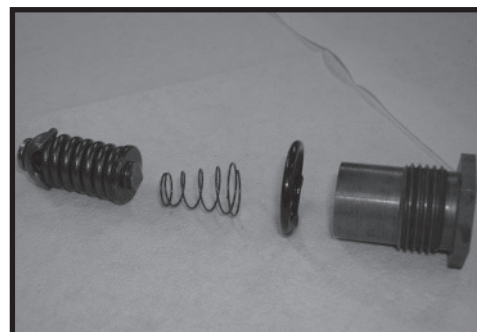

Figure 62
21. If relief valve components items #21, #22, #24 were removed from the end cover (2) assemble a **new** o-ring (22) on the two plugs (21). Assemble a two piece relief valve (24) in each of the plugs, with the large end of the conical spring into the plug first and the small nut of the other valve piece in the small end of the conical spring. Turn each of the plug and relief valve assemblies into the end cover loosely to be torqued later. 3/8 inch Allen or 1 inch Hex socket required. SEE FIGURE 62.